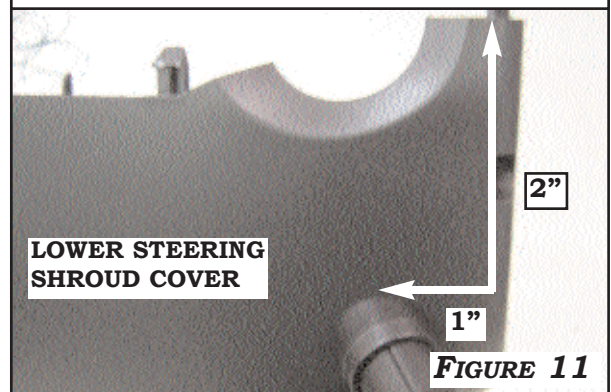
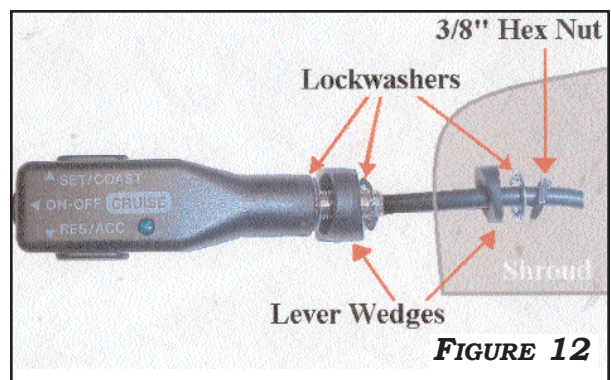

FIGURE 11
FIGURE 12
1. MARK HOLE AS SHOWN IN **FIGURE 11**. USE THE **LEVER WEDGE** AS AN ANGLE TEMPLATE TO DRILL **9.5MM OR 3/8"** HOLE IN LOWER SHROUD. POSITION THE LOCK WASHERS AS SHOWN IN **FIGURE 12**. START NUT AND POSITION THE LETTERING FOR DRIVER'S BEST VIEW. FULLY SECURE NUT AT **2.5-2.8NM**. **DO NOT OVERTIGHTEN**.